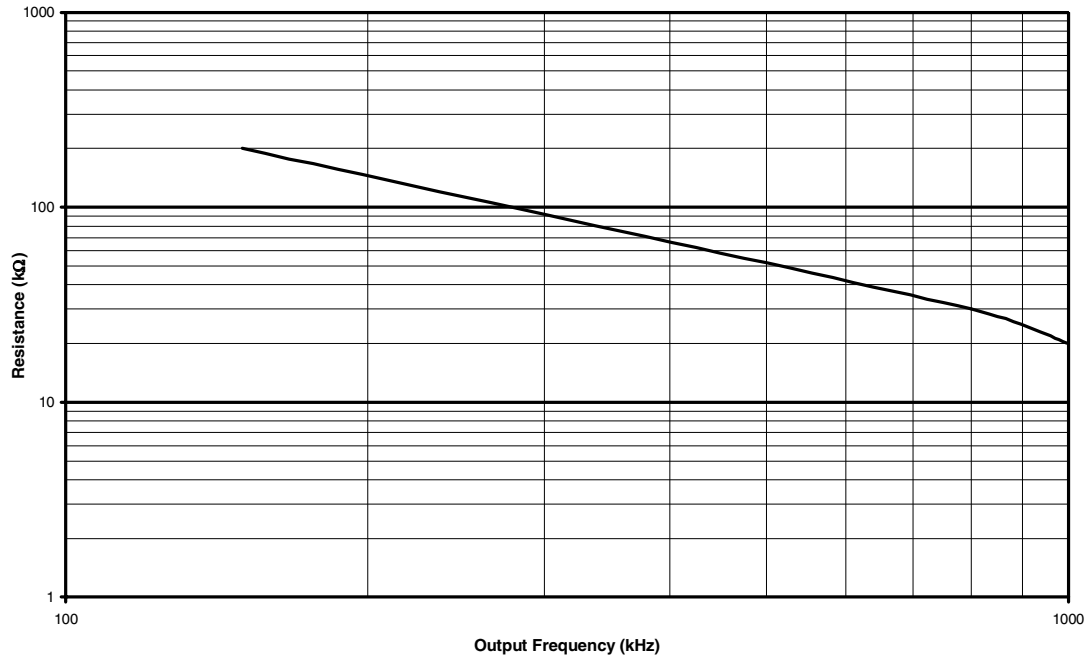
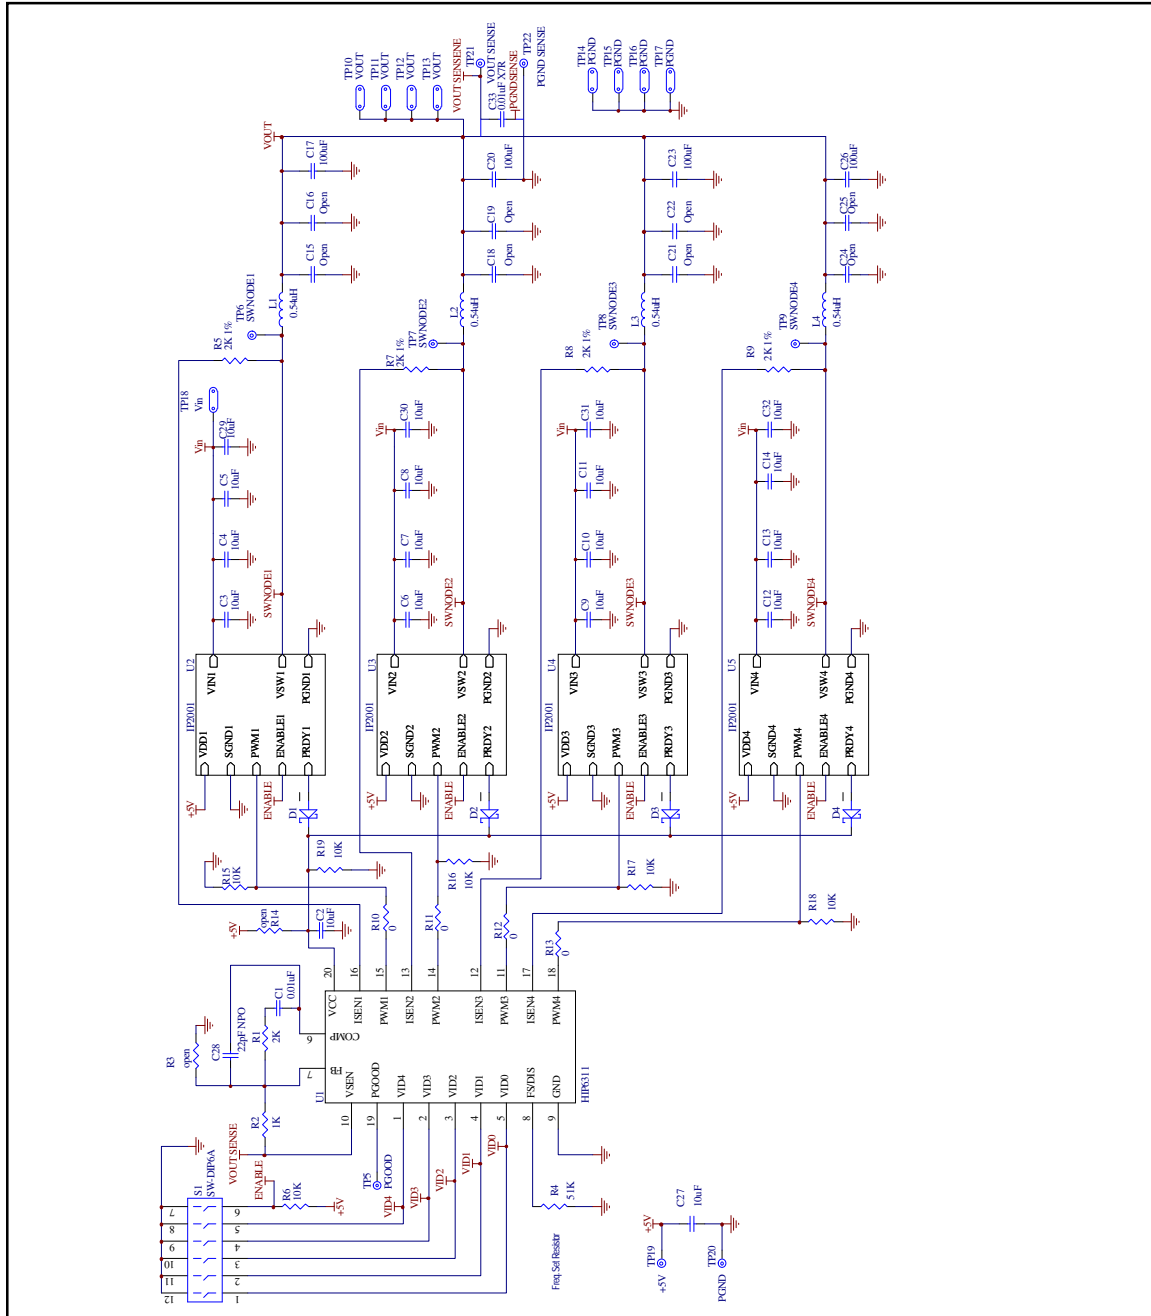

Figure 1 - R4 vs. Frequency per Phase
Fig. 3 - Reference Design Schematic
In this document, table 1 and figure 1 are provided to enable engineers to easily evaluate the iP2001 in a 4-phase configuration that is capable of providing up to 80A in a lab environment without airflow. Figures 3, 4, 5 and 6 and the complete bill of materials in table 2 are provided as a reference design to enable engineers to very quickly and easily design a 4-phase converter. In order to optimize this design to your specific requirements refer to the data sheet for the controller listed in the bill of materials. A variety of other controllers may also be used, but the design will require layout and control circuit modifications.
- The switching frequency per phase is set to 500kHz with the frequency set resistor R4. This creates an effective output frequency of 2Mhz. The graph in figure 1 shows the relationship between R4 and the switching frequency per phase. This frequency may be adjusted by changing R4 according to this graph; however, extreme changes from the 500kHz set point may require redesigning the control loop and adjusting the values of input and output capacitors. Also, refer to the SOA graph in the iP2001 datasheet for maximum operating current at different frequencies.